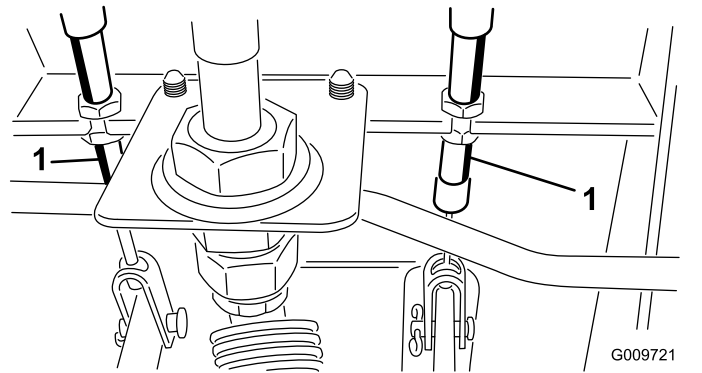

Figure 101
- Loosen the front nut on the threaded end of the brake cable (Figure 101).